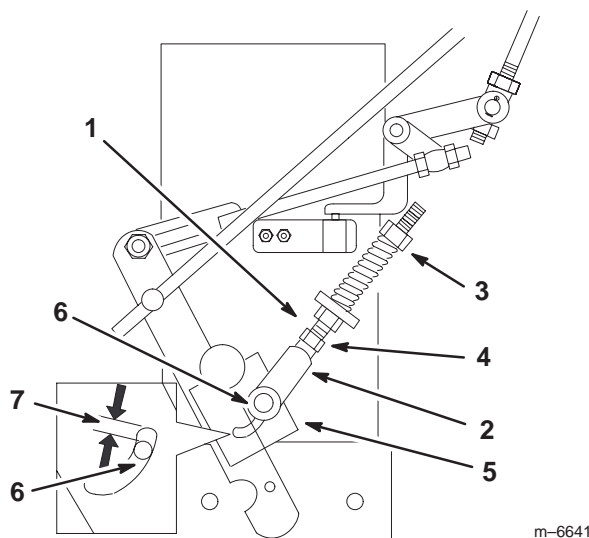

Figure 43
3. Loosen the nut against the yoke (Fig. 43).
4. Adjust the length of the neutral stud and yoke assembly so the clevis pin does not contact the back of the slot in the control arm bracket (Fig. 43).
5. Tighten the nut against the yoke (Fig. 43).
- If the wheel turns while holding the drive lever in neutral position, the neutral stud needs to be adjusted (Fig. 43). If the wheel does not rotate, then go to step 12.
- Adjust the adjustment stud until the respective drive wheel stops while holding the drive in neutral position (increase resistance) (Fig. 43).
- Turn the adjusting bolt approximately 1/4 turn clockwise if the wheel is turning in reverse and turn the bolt approximately 1/4 turn counter-clockwise if the wheel is turning forward (Fig. 43).